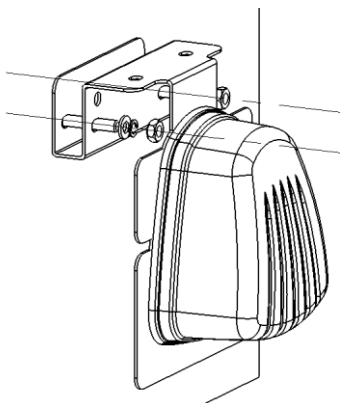

Figure 6.
3. Assemble bracket components as below figure 6